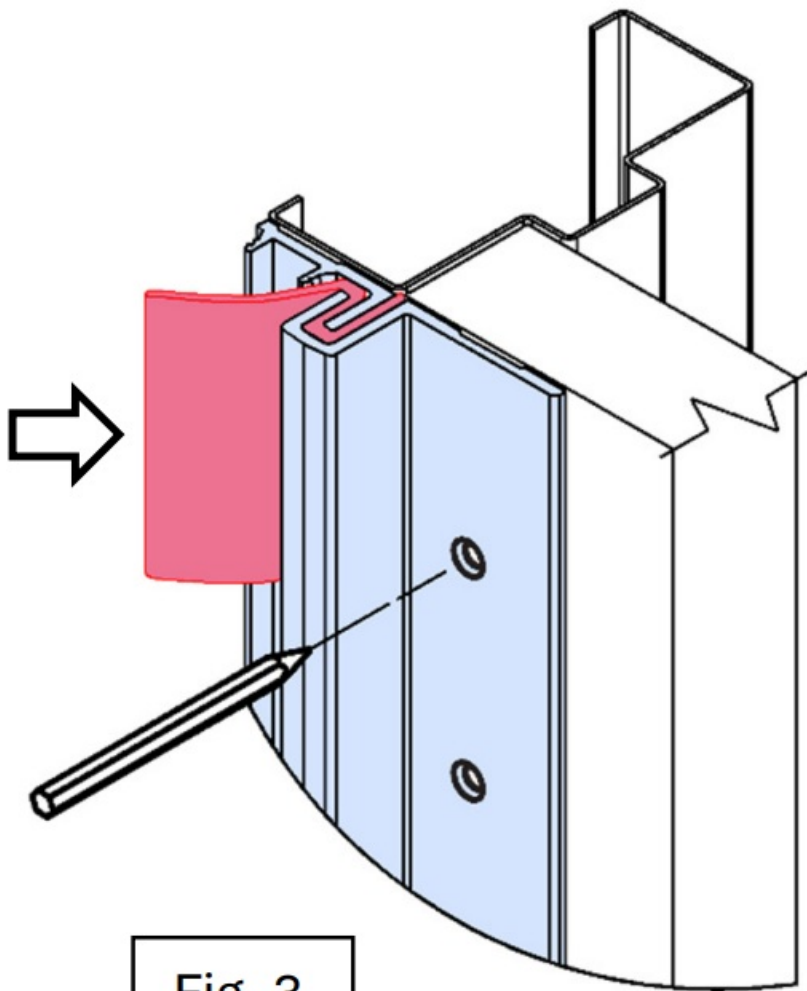

Fig. 3
**A.** With the door closed, center the female door portion of the Latch Guard over the male. To help with centering, it is recommended to place the pink foam material, supplied as part of packaging material, over the male portion near top and bottom. Press the female section over the male, wedging the foam material between both parts to hold the door section in position for mounting, making sure to also center this section vertically and NOT get the foam trapped between the Latch Guard and door. (**Fig. 3**)